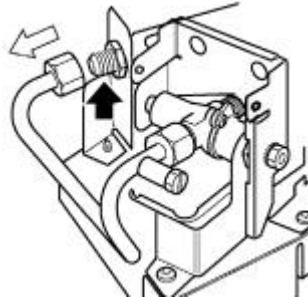

Fig. 47 Burner Injector Removal
14.12 TO REMOVE THE MAIN BURNER INJECTOR (See figure 47)